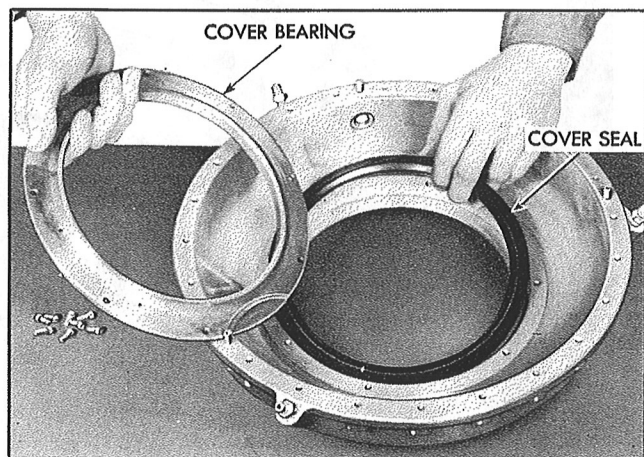

Figure 133—Removal of Cover Bearing and Seal
*Step 14.*—Lift out the regulator cover bearing, then remove the cover seal and spring. See Figure 133.